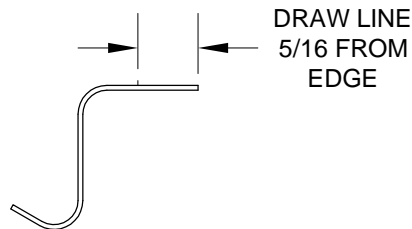

FIGURE 1: J-STIFFENER END VIEW
Step 2: Fabricate the W-1026 Leading Edge J-Stiffener for both the left and right wing assemblies by cutting two pieces of J-channel, each one 76 1/8 inches long. Draw a centerline on the flange of each J-stiffener as shown in Figure 1. Set one J-stiffener aside for use on the right outboard leading edge assembly.